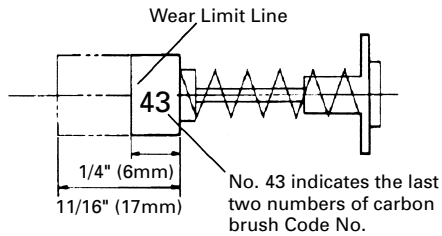
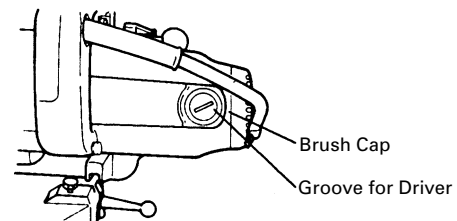

Fig. 39
Fig. 40
(1) Loosen the 8mm nut and tighten the four 8mm hexagon socket set screws until the power tool operates smoothly without looseness.
(2) Properly tighten the 8mm nut after completing these adjustment.
3. Inspecting the carbon brushes (Fig. 39 and Fig. 40)
Therefore, inspect the carbon brushes periodically and replace them when they have become worn to the wear limit line as shown in Fig. 39.
The carbon brushes can easily be removed after removal of the brush caps (see Fig. 40) with a slotted (minus) screwdriver.